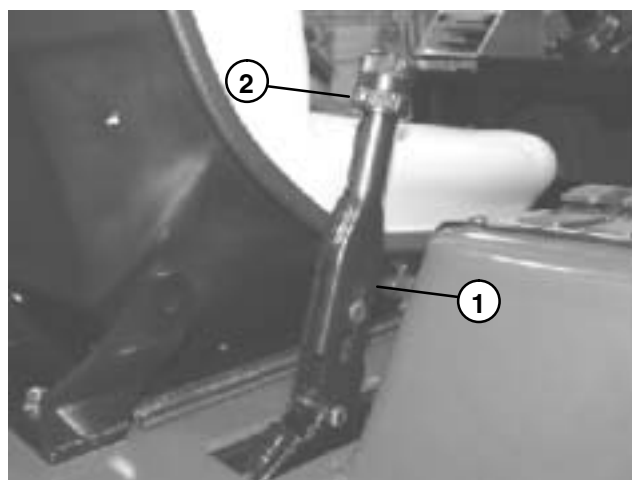

Figure 6
4. Loosen set screw on parking brake control lever knob (Fig. 6). Turn knob on parking brake lever counter-clockwise all the way to loosen brake cables.